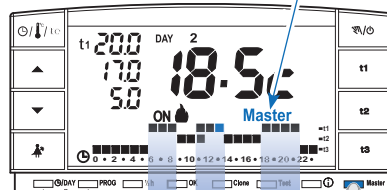

fig. 88
- during periods when the programme (profile) presents the **comfort (t1)** temperature level, temperature control is no longer managed by the Master (which continues to manage its coupled zone), but by the transmitters coupled to the single zones. The message **Master** will however remain on the display (fig. 88).